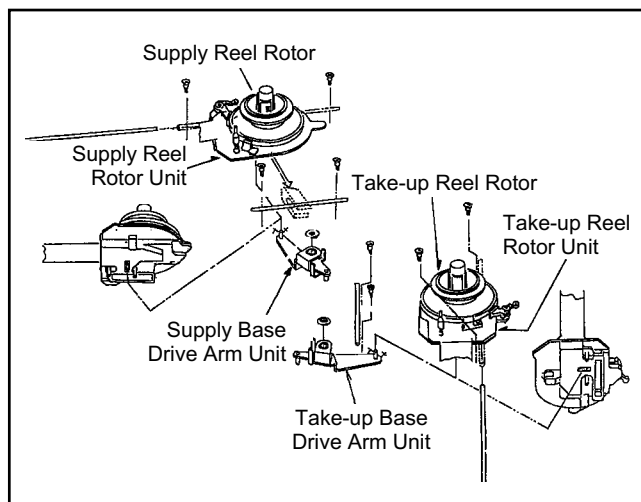

Figure 2-17-2
2. Hang on the Reel Rotor Unit to inner rail and install the Reel Rotor Unit then the pin of Drive Arm Unit should be matched with groove position of Reel Base as shown in Figure 2-17-2.
3. Fix the outer rail by Screw (A) and Screw (B).